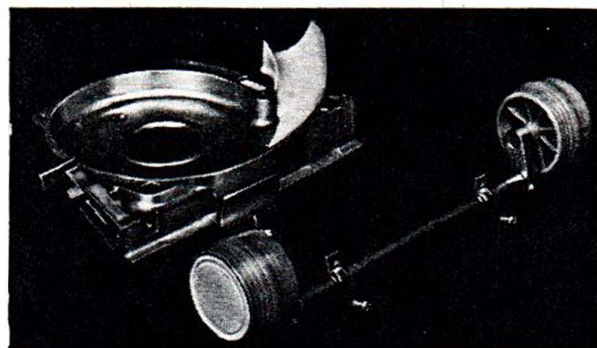

Figure 17. Ratchet Lock and Volute Deflector Removal
1. See Figure 17. Remove two phillips head screws from bottom of fan case assembly.